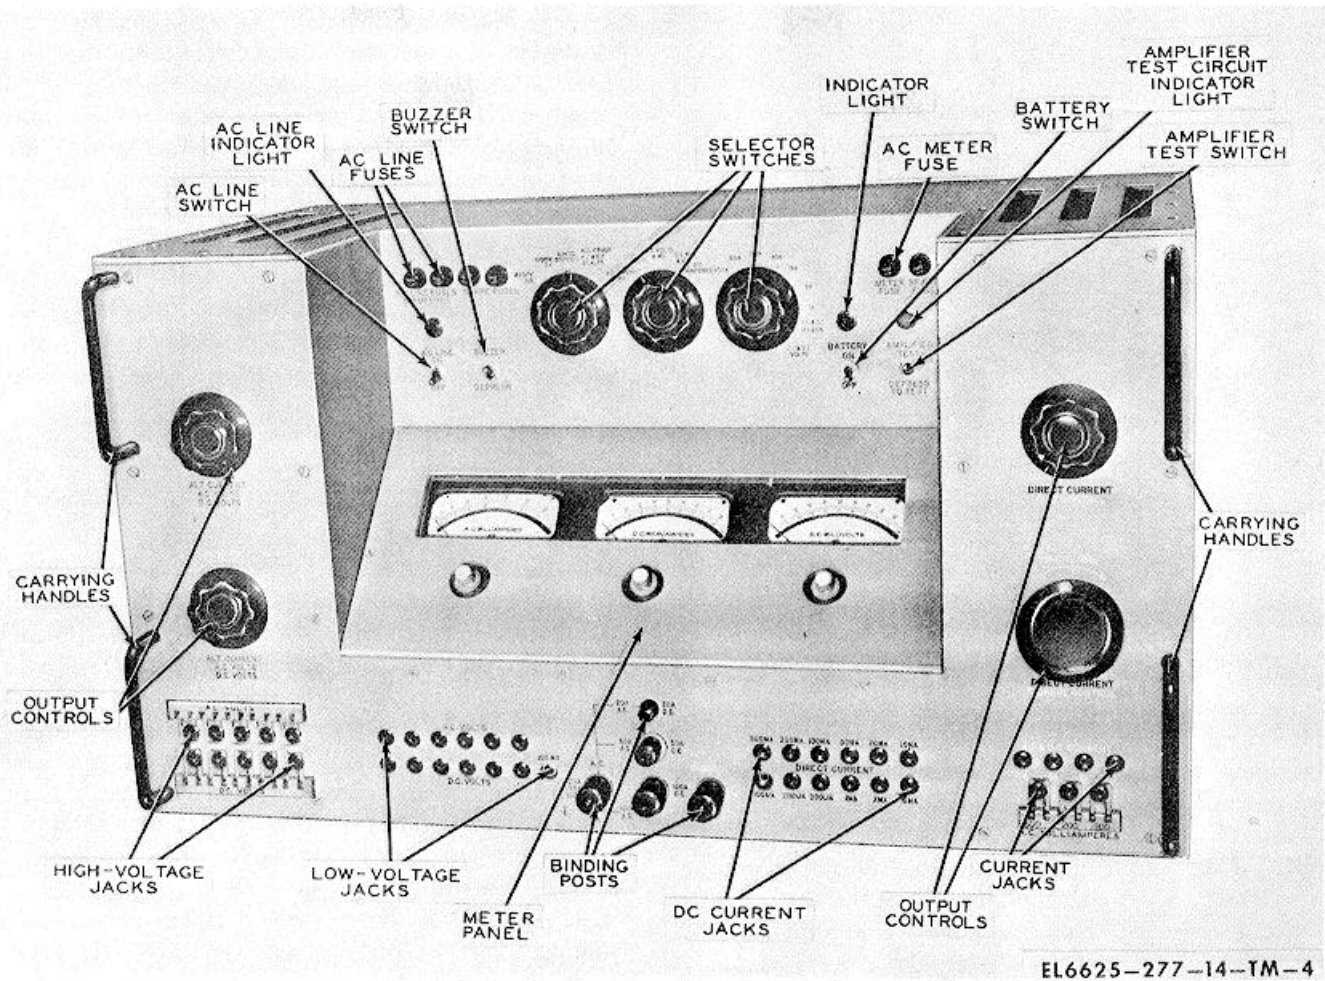

Figure 1-4. Meter Test Set TS-682A/GSM-1, front view.
b. Meter Test Set TS-682A/GSM-1 (fig. 1-4).
(1) The meter test set is enclosed in a heavy aluminum frame-work on which all parts and the enclosing panels are mounted. Three standard meters are mounted in a shock-mounted case. The meters are mounted at a 45° angle on the front of the test set. The meter panel, the U-shaped panel on which the output controls, jacks, and binding posts are mounted, and the offset switch panel are faced with insulating phenolic sheets. The entire test set has a light gray enamel finish.
(2) The ac power cord is located at the rear of the test set. Binding posts for connection to an external 12-volt storage battery can be reached through a door in the rear panel. A pocket mounted on this panel holds a set of calibration data charts.
(3) All parts and assemblies are mounted on and insulated from the aluminum framework, or are mounted on separate phenolic panels suspended from the framework. The top, bottom, side, front, and rear panels can be removed.